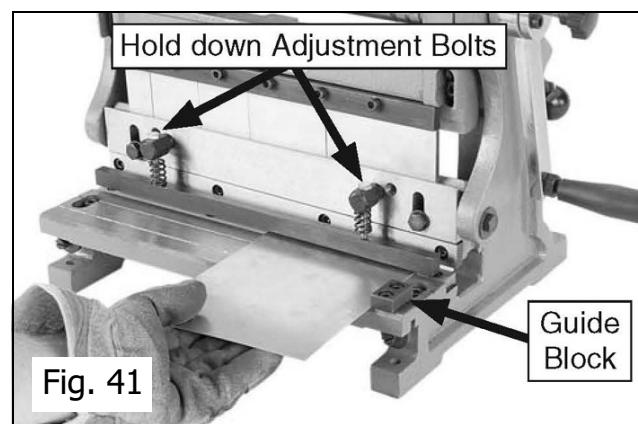

Fig. 41
3. Position the workpiece up against the guide block on the right side of the table, then align the cut mark with the upper shear blade, as shown in Figure 41.